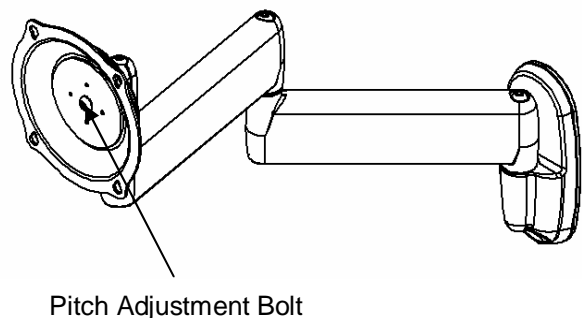

Figure 17. Adjust Pitch Tension
- b. Using a 3/16" hex wrench (170), slightly tighten or loosen pitch adjustment bolt to adjust Centris bracket as needed (see Figure 17).